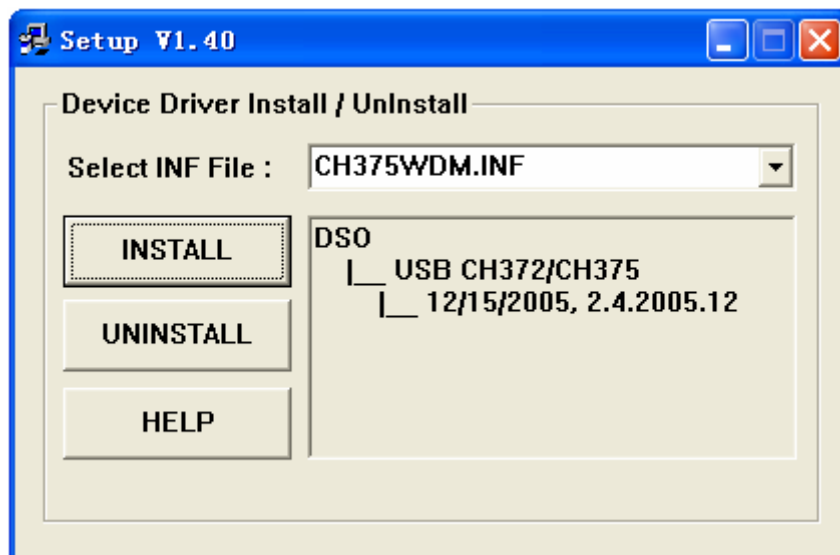

Figure 1-8
Step 2 : Double left click the mouse to run DSO_USB_Driver. An installation box will pop up(Figure 1-8). Click the **INSTALL** button to enter the automatic installation page.